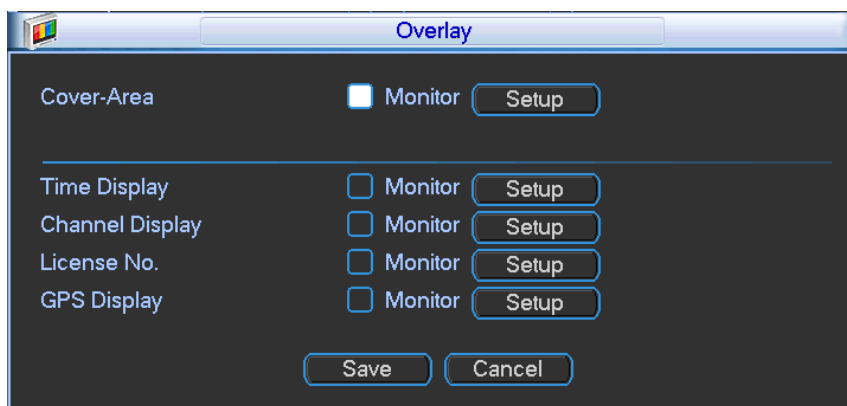

Figure 4-45
- Overlay: Click overlay button, you can see an interface is shown in Figure 4-45. Please note the following overlay titles can not be in the same position. **Please note only the unit of GPS module supports GPS overlay function.**